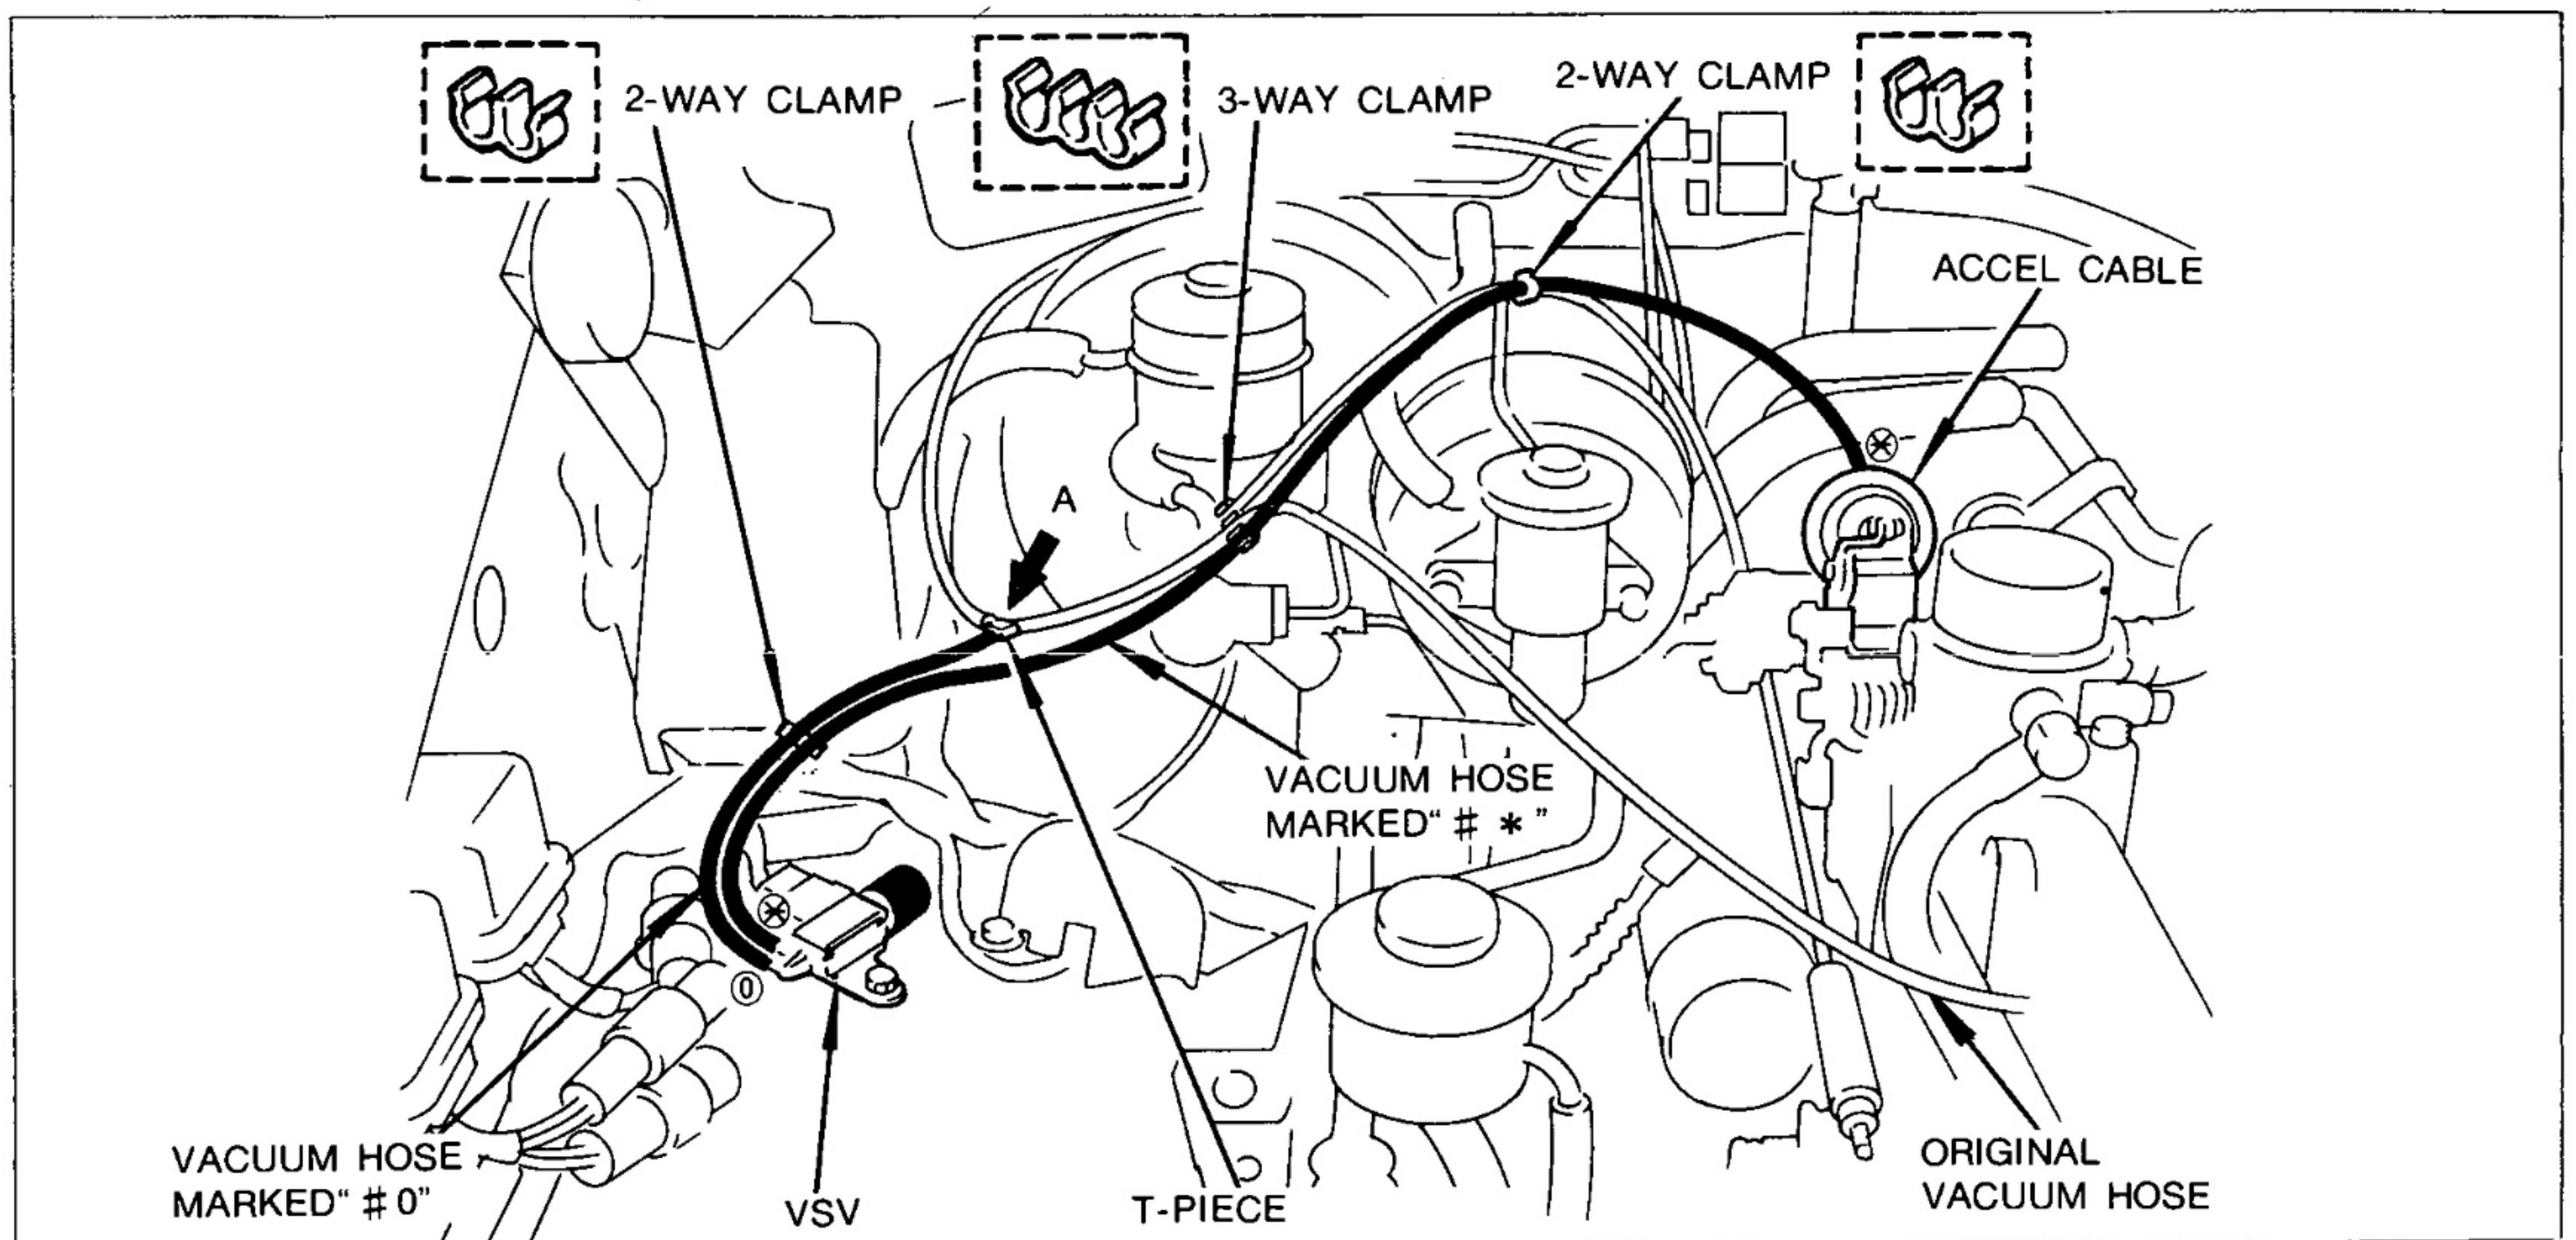

Fig.74
(4) VACUUM HOSE (M/T MODEL WITH 4 x 2 SELECTOR ELECTRICAL TYPE)
- (a) Cut the original vacuum hose at "A" as shown in Fig. 74.
- (c) Connect the original vacuum hose and vacuum hose marked "#0" using a T-piece as shown in Fig. 74.
- (e) Fasten the vacuum hose using the three clamps as shown in Fig. 74.